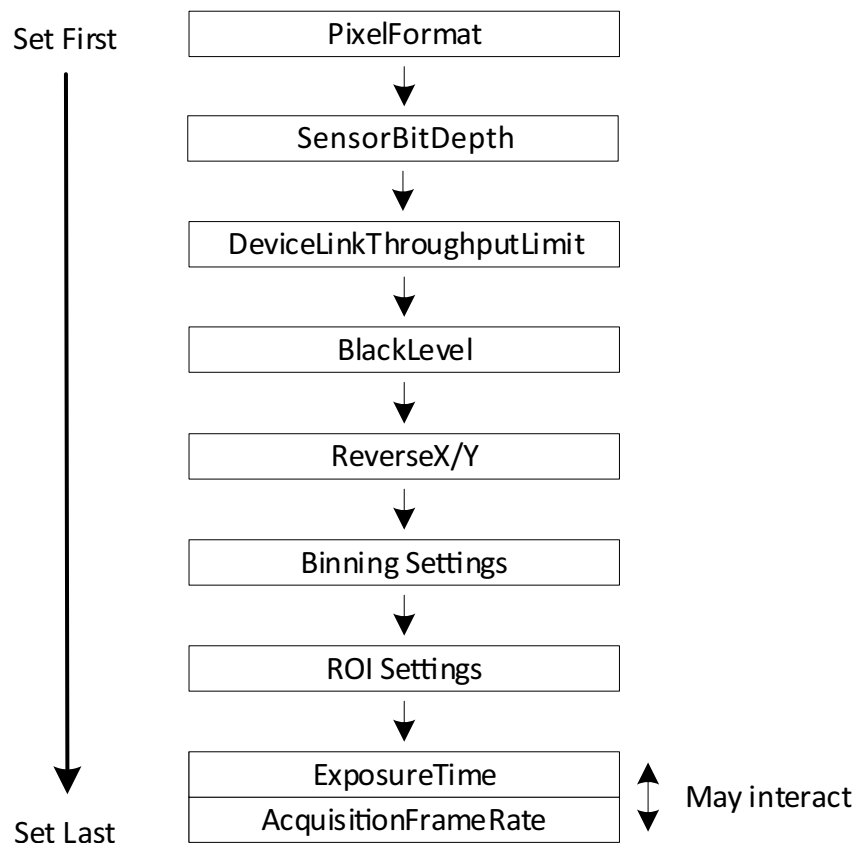

Figure 77: Interdependencies between features
The conversion between time and clock cycles affects control values. Features for pixel format, bandwidth, ROI, exposure time, and triggering are related to each other. Changing values for one feature can change values for another feature. For example, frame rates can be reduced when **PixelFormat** is changed subsequently. Figure 77 shows the interdependencies.
- To avoid readjustments, apply settings in the order shown in Figure 77.